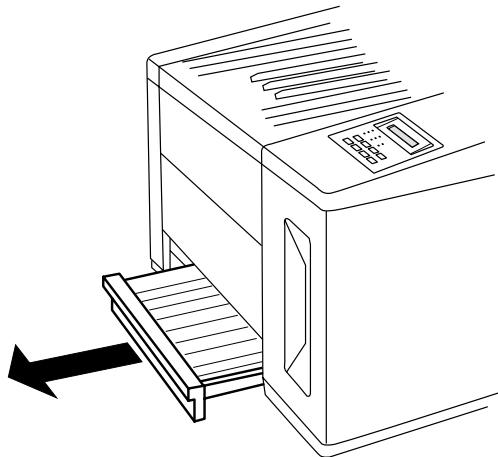

Fig. 8.4 *Remove the Paper Cassette*
1. Remove the paper cassette from the printer (fig. 8.4).